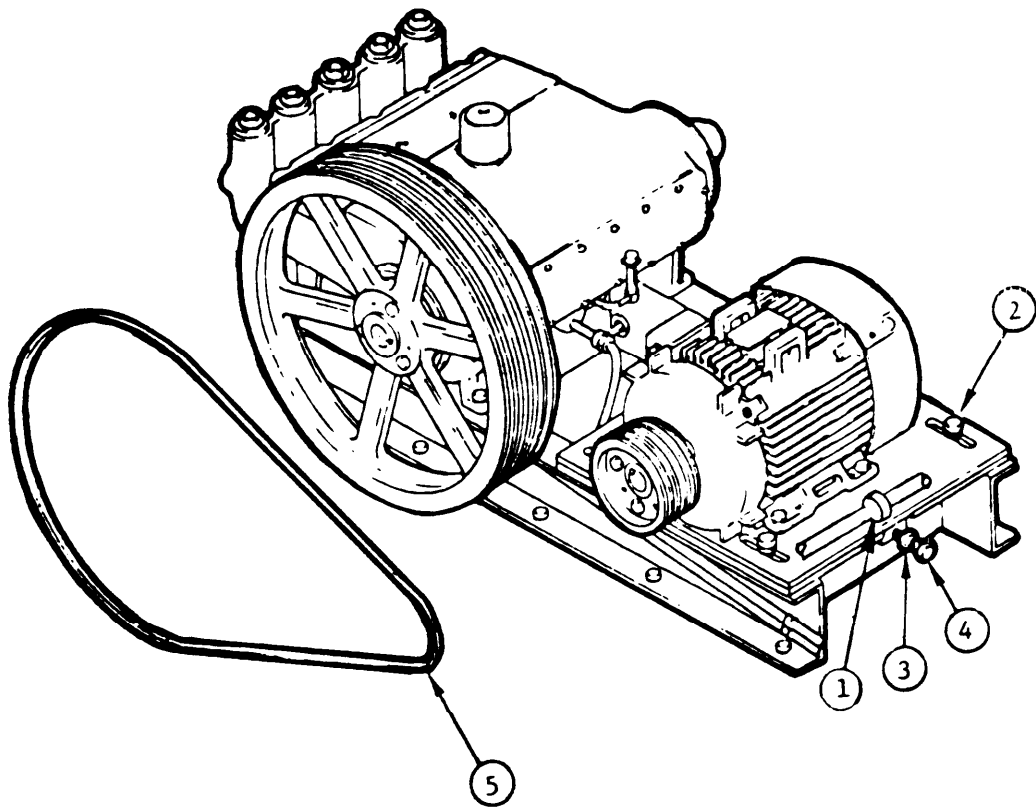

Figure 2-91. R.O. Pump Belt
b. Removal. (Figure 2-91)
- (1) Remove R.O. pump belt shroud in accordance with paragraph 2-75.
- (2) Remove power cable clamps (1) from motor base plate.
- (3) Loosen, but do not remove, four bolts (2) holding motor mounting plate to R.O. pump assembly stand.
- (4) Loosen locknut (3) on adjustment bolt (4).
- (5) Turn adjustment bolt counterclockwise. This will move the R.O. pump motor toward the R.O. pump. Continue turning until belts are loose and then remove five belts (5) from the sheave.
- (1) Inspect belts for excessive wear, cracks, and dry rot.
- (2) If any belt is damaged, replace all five belts.
d. Replacement. (Figure 2-91)